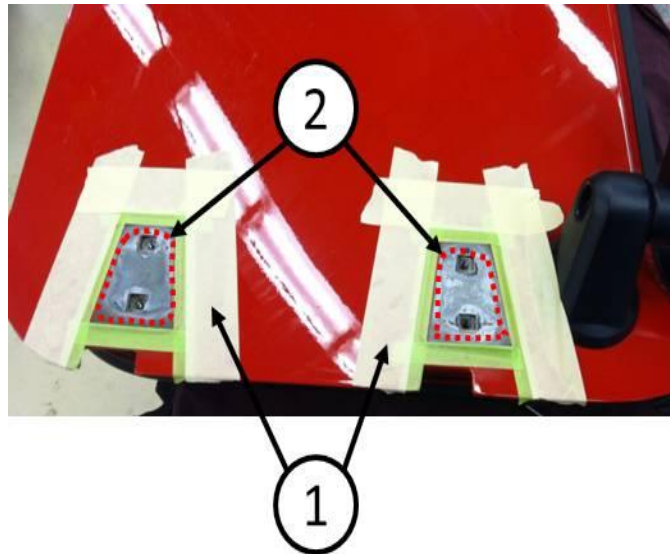

Fig. 1 Right Front Door
4. Mask and protect the areas adjacent to the hinge location as shown in (Fig. 1) (1) to protect the panel surface from adhesive.
5. Apply IES 8460 Inter-mix 5 epoxy clear sealer or Crest clear seal ZCEC or equivalent to the outboard edge of panel surface per the adhesive suppliers recommendations as shown in (Fig. 1) (2).